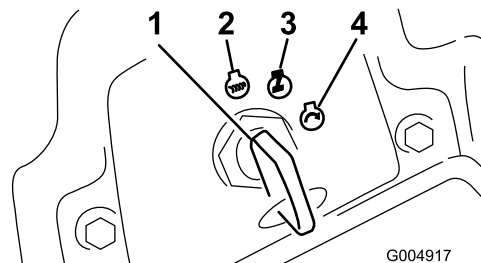

Figure 17
6. Turn the ignition key clockwise to the Run position (Figure 17).
3. Turn the ignition key to the Off position (Figure 17). Wait for all moving parts to stop before leaving the operating position.